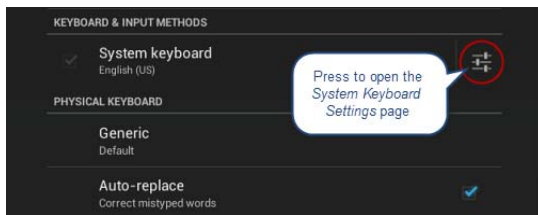

FIG. 88 Keyboard Options window
2. Press **Set up input methods** to open the *Keyboard Options* window (FIG. 88).